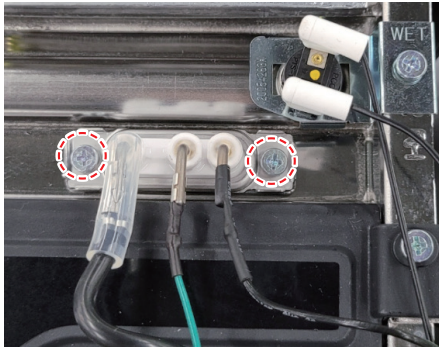

Figure 7
5. Remove the two screws from the flame rod as shown in figure 7 below.
9. Place the new flame rod back onto the burner assembly and secure it by using the two screws from figure 7.